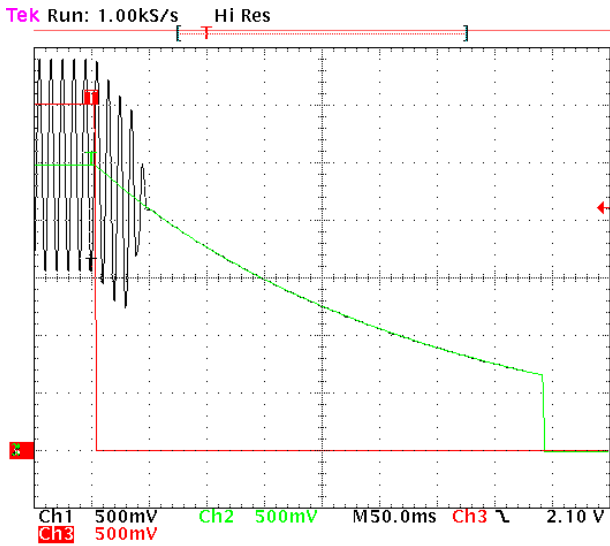

Figure 40. Turning-Off Time/ $V_p = 5.0\text{ V}$
– 385 ms later, the DC signal will reach 0.7 V due to exponential discharge of the bypass voltage. It is then tied to Ground as shown in Figure 40.